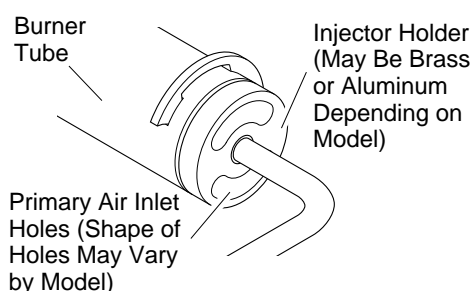

Figure 21 - Injector Holder On Outlet Burner Tube
2. Inspect burner, pilot, and primary air inlet holes on injector holder for dust and dirt (see Figure 21).